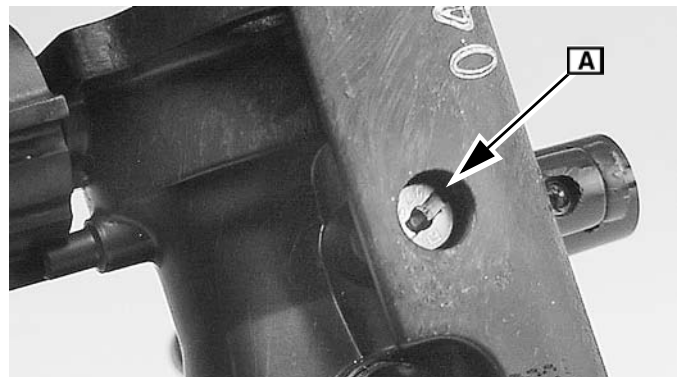

Fig. 48
3. Apply one drop of **Loctite 242™** to the threads, and install the pilot jet **A** (Figure 48). Torque to **5 lb-in.**